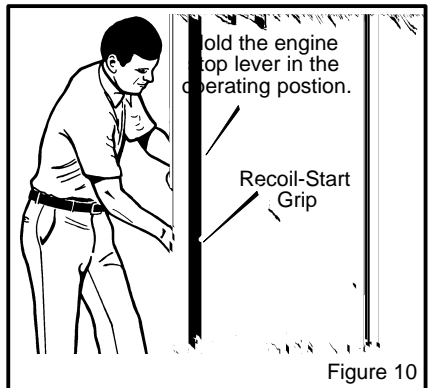

Figure 10
5. Stand behind the mower (Figure 10). Use one hand to hold the **engine stop lever** in the operating position as shown. Use the other hand to hold the **recoil-start grip**.